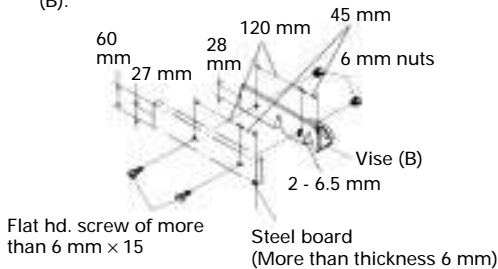

Fig. 6
- (3) When wide material is cut with angle, it will be firmly camped by fixing a steel board like Fig. 6 to the vise (B).